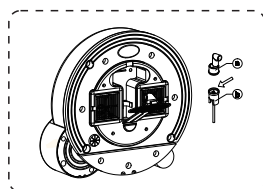

Fig.9.2.2
- Figure 9.2.2, screw off the cup lid and nozzle; pour medicine liquid into the nebulizer cup.